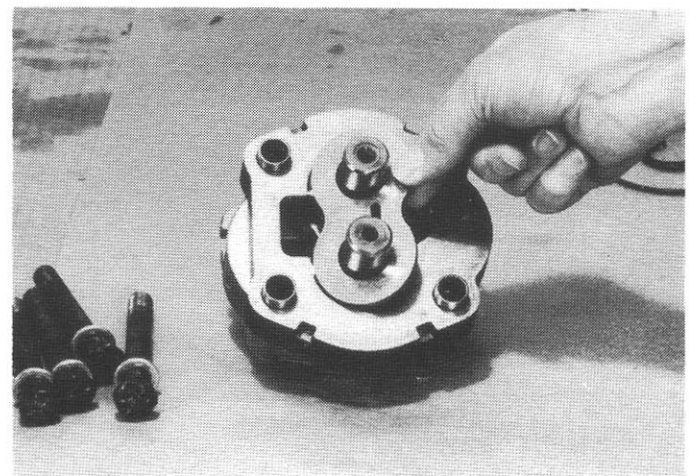

Fig. 8
8. Remove pressure plate (8). Remove o-rings (7) from journal bores of pressure plate. (Fig. 8)